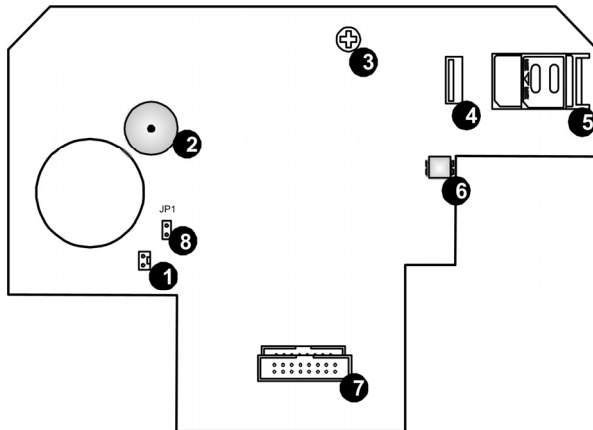

Figure 3: Main board
7. Connect the backup Battery pack to the connector (**Figure 3**) on the main board.